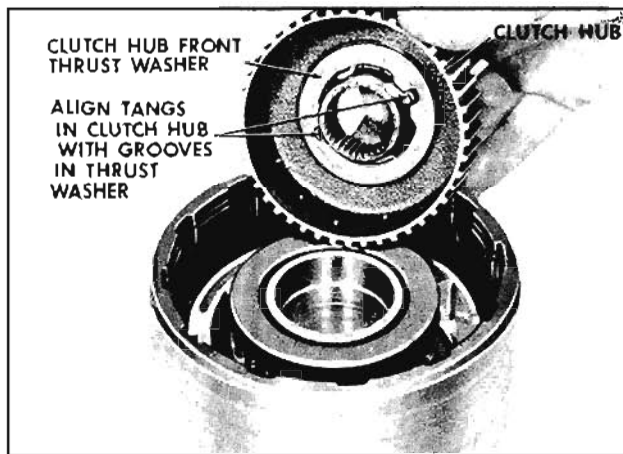

Fig. 6-366 Installing Clutch Hub
8. Install clutch hub front thrust washer to clutch hub (retain with grease) aligning tangs in clutch hub with grooves in thrust washer. Install clutch hub. (Fig. 6-366)